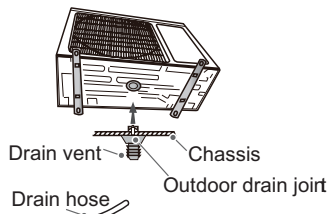

Fig.19
- (1) Connect the outdoor drain joint into the hole on the chassis.
- (2) Connect the drain hose into the drain vent.
- (As show in Fig.19)